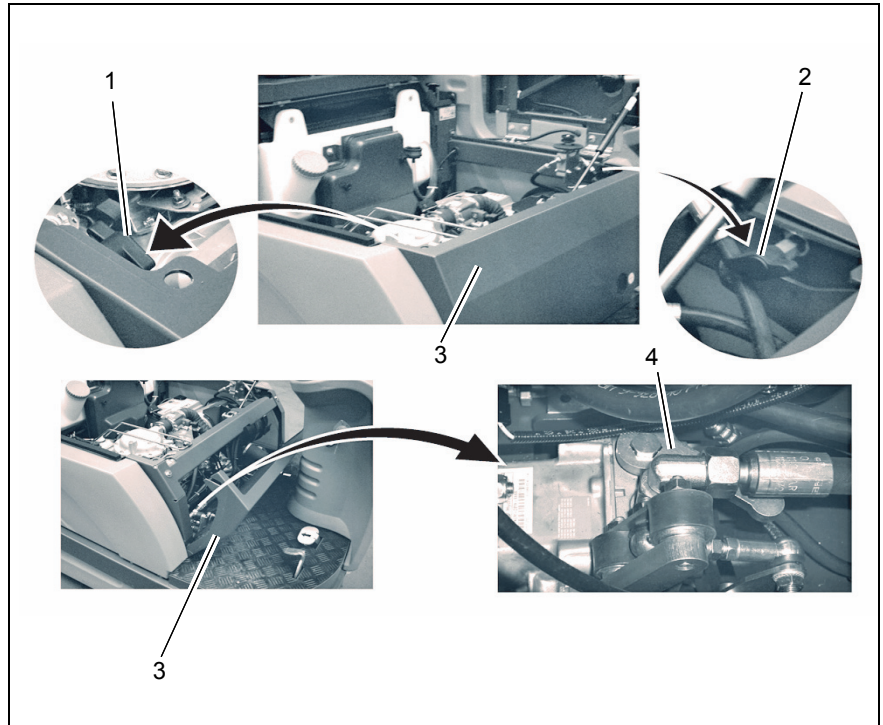

Fig.4
If the Sweepmaster should be moved with engine being off, actuate the bypass valve (Fig. 4/4) as follows.
2. Loosen wing screw left (Fig. 4/1) and wing screw right (Fig. 4/2) of side covers.
3. Tip front plate (Fig. 4/3) forward.
4. Turn the lever (Fig. 4/4) of the bypass valve anticlockwise approx. to the touch.